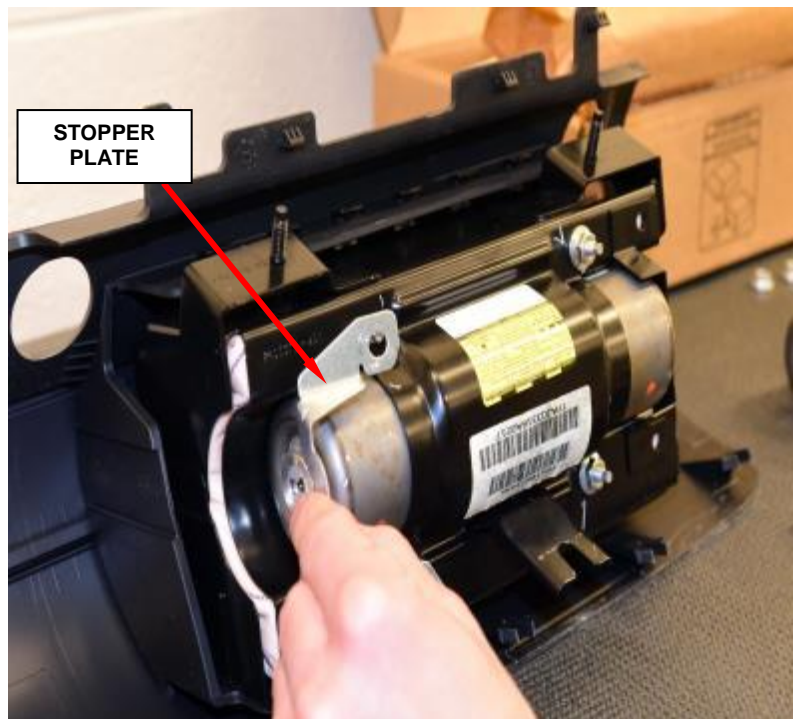

Figure 89 – Stopper Plate
c. Remove and save the stopper plate from the passenger airbag module (Figure 89).